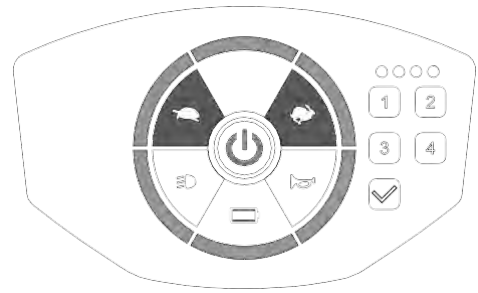

Figure 9
- Press the power switch to get the scooter on power standby (red light on), then press and hold both acceleration [🏍️] / deceleration [🛑] buttons for 2 seconds. The panel light will be all on when scooter is ready for backlight setting. (Figure 9)